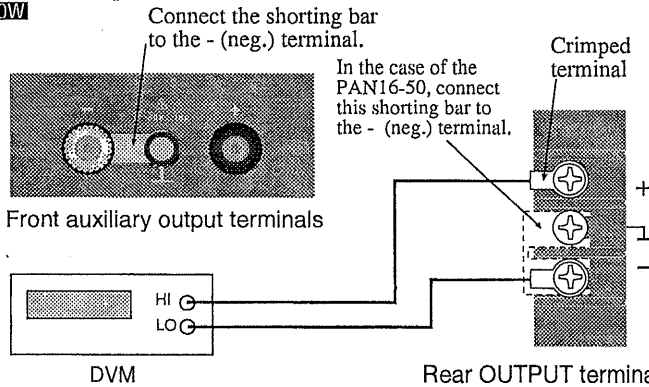

Fig. 5-1B Connection for voltage system calibration (model 1000W)
- For the model 1000W user, see Fig. 5-1B.
- ④ Connect the - (neg.) terminal and the chassis ground terminal ( $\perp$ ) with the shorting bar.